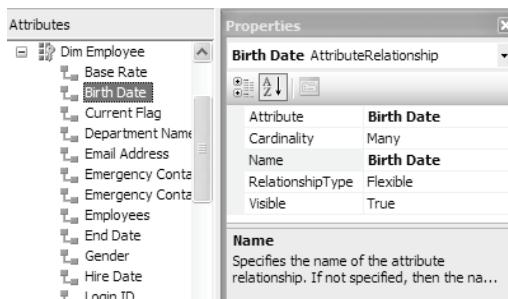

Figure 3.24 Member properties decorate attribute members and define known relationships.
3. Select the *Dim Employee* dimension key attribute. By default, the Dimension Designer promotes all columns in the same table as the member properties of the dimension key (see Figure 3.24). This tells UDM that all attributes are related to each other through the key attribute.
4. Besides decorating the attribute members, member properties can be used to define known relationships among attributes forming levels in multilevel hierarchies. Click on the *Birth Date* member property. By default, the Dimension Designer sets the properties of a member property to the values shown in Figure 3.24.